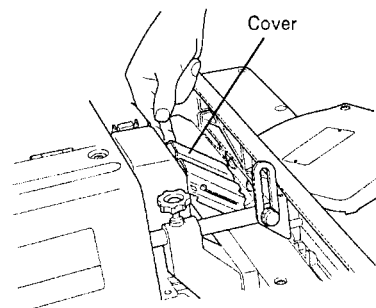

Fig. 10
- (2) Loosen the knob, set the Guide to the proper location, and retighten the Knob (Fig. 9-b). Ensure that the Cover is pushed against the Guide (Fig. 10).
- (3) Feed the material while keeping it tightly pressed against the reference guide.